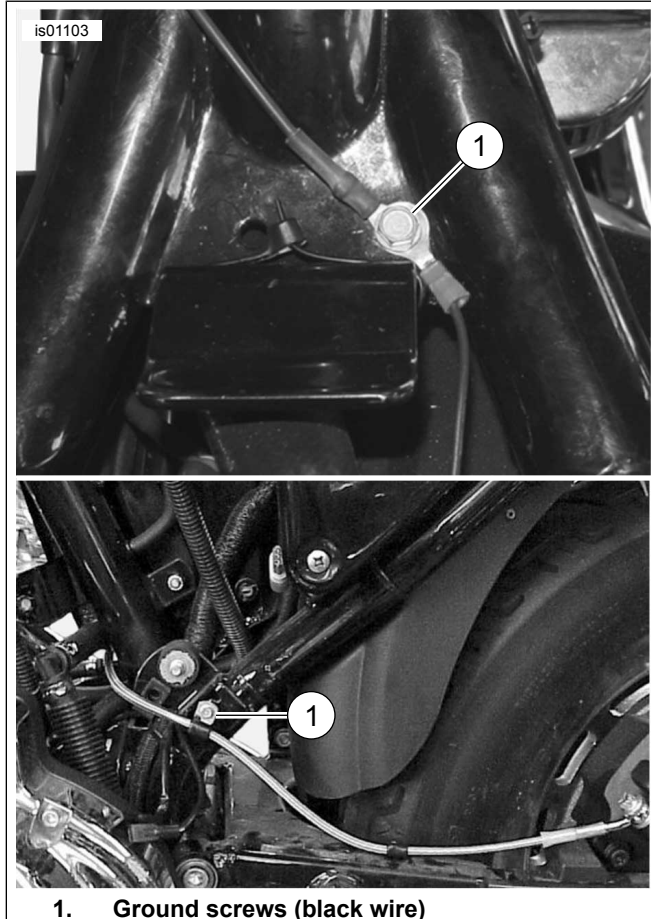

Figure 3. Ground Connections (Sportster Models)
3. See Figure 3. Remove the ground screw (1), located: